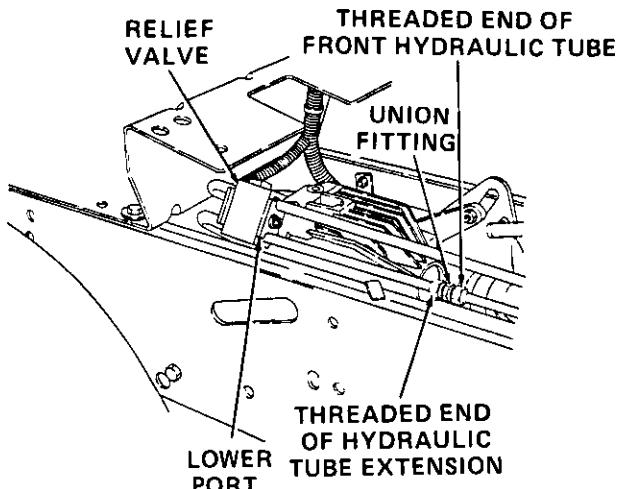

Figure 22
5. For tractor Model 1541 (Serial No. 816,509 and above), 1641 and 1861 only, complete installation of front outlet tube (L) and hydraulic tube extension (X) as follows:
a. Secure the threaded female fitting on the front outlet tube to union fitting (M). Refer to Figure 22.